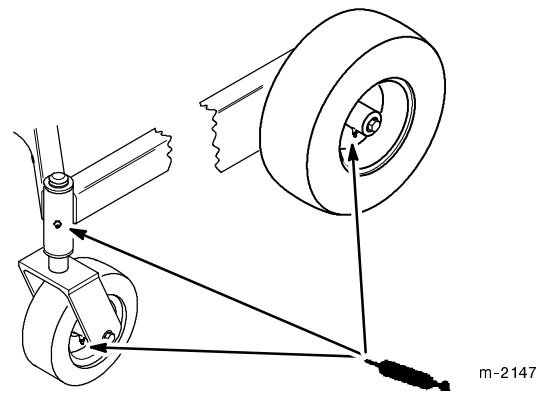

Figure 27
1. Lubricate the wheel bearings and front spindles until grease begins to ooze out of the bearings (Fig. 27).